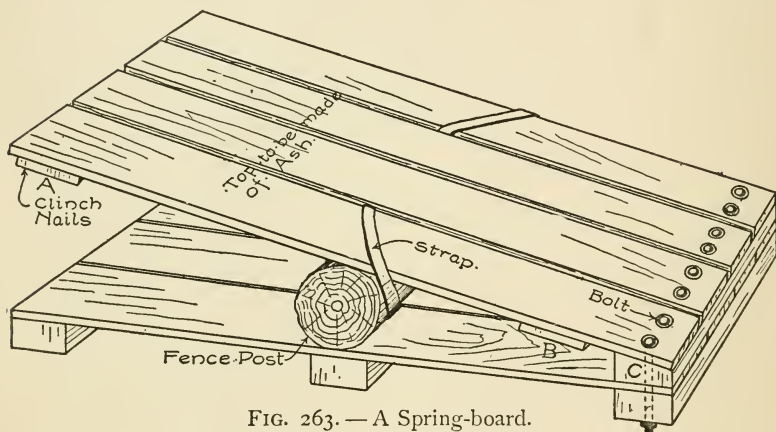

FIG. 263. — A Spring-board.
**A Spring-board** is excellent for practising the high and broad jumps, and is a piece of apparatus with which a great deal of fun may be had. Figure 263 shows a scheme for a spring-board that is easy to make. First cut three pieces of two-by-four two feet long, lay them on the ground parallel to each other eighteen inches apart, and construct a platform four feet long by two feet wide on top of them.
The upper portion of the spring-board should be made of elastic boards, preferably ash. Construct a second platform six inches longer than the first, leaving about one-half inch between the boards, and battening the pieces together at *A* and *B* (see Fig. 263). Nail the battens securely in place, using nails of sufficient length to allow clinching on the under face of the battens. The clinching will prevent the boards from springing apart.